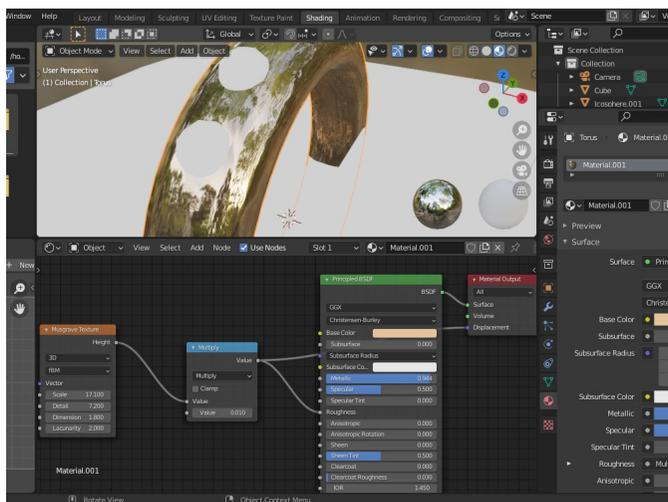

Figure 1-8 Shading workspace
4. To work with material nodes you need to set one of the areas to use the Shader Editor. You can do this by clicking on the Shading tab at the very top of the window which will change the Active workspace. You can modify the type and size of the different editor areas quite easily but the Active workspace tabs are a convenient way to switch between tried and tested default layouts (see Figure 1-8). The bottom of the screen will now contain a Shader Editor area and you can zoom in on this with the mouse wheel, pan the view with the MMB and select and drag the nodes with the LMB.
6. To tone down the strength of the pattern you can feed the output through a node to multiply it by a small value. Use the menu **Add ▶ Converter ▶ Math** to create a new node and drop it onto the connection between the Noise Texture and the Principled Shader nodes, which should automatically insert the node into the connecting “pipe”. If you miss then you can reconnect the inputs and outputs so they match Figure 1-8.
10. Select one of the diamonds and add a new material to that object changing to the Glass BSDF shader as well, but with Color white and IOR 2.4. For the other three diamonds select the same diamond material from the drop-down list in the Material Properties tab. You can see the drop-down half way up Figure 1-8, just above the Preview section.